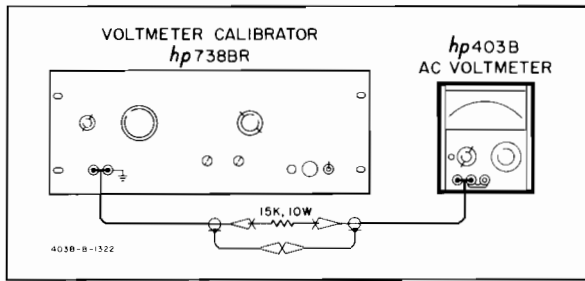

Figure 5-3. Overload Check Setup.
a. Connect the 403B as shown in Figure 5-3.
The 15 KΩ 10W resistor must be connected as shown in Figure 5-3 to prevent damage to voltmeter calibrator.